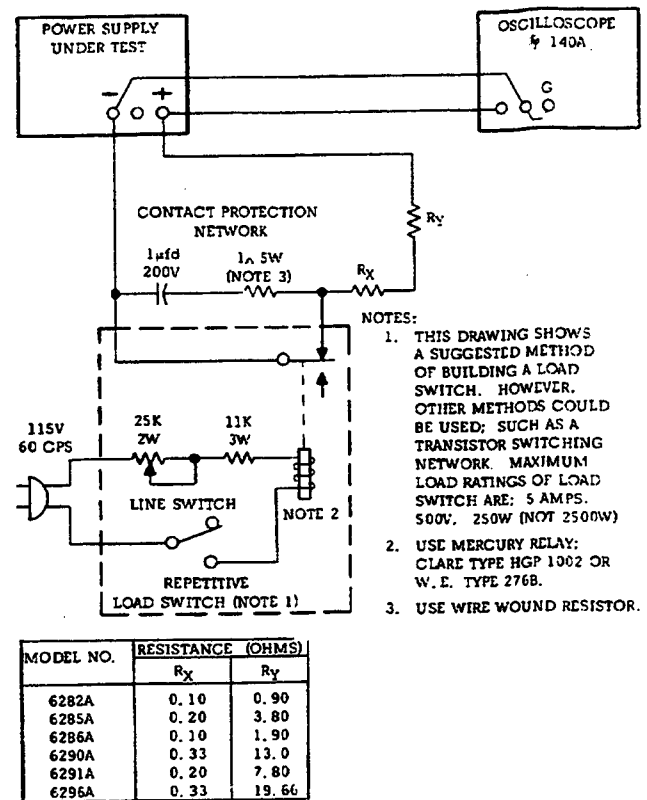

Figure 5-7. Transient Response, Test Setup
- Connect test setup shown in Figure 5-7.